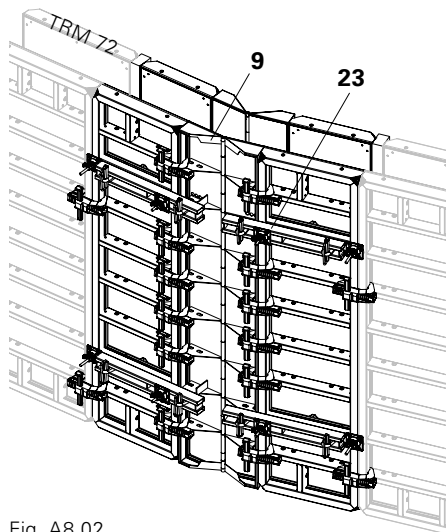

Fig. A8.02
The external formwork is stabilised with the Compensation Waler TAR 85 (23). (Fig. A8.02)